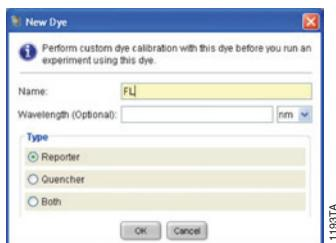

Figure 7. Naming the new dye.
- Enter “FL” as the new dye Name, select the “Reporter” radio button under “Type” then select “OK” (Figure 7).